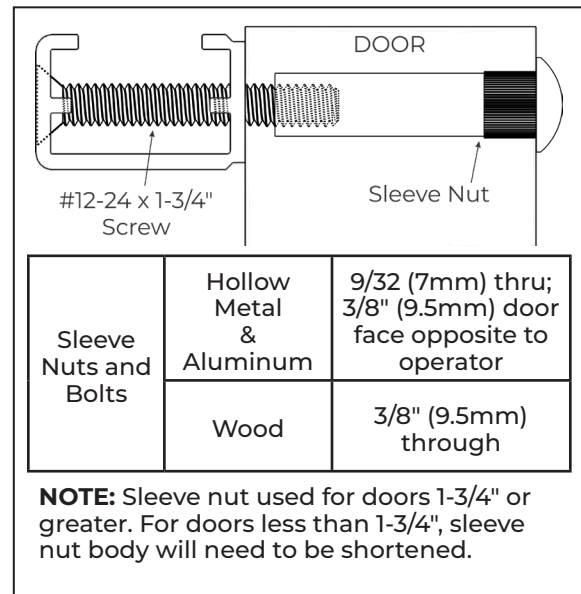

Fig. 5
Reference Fig. 5 and use a #12-24 x 1-3/4" screw with sleeve nuts.
- **For wood doors:** Reference Fig. 5 and use a #12-24 x 1-3/4" screw with sleeve nuts.